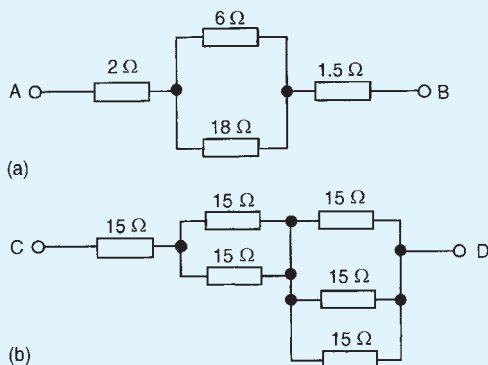

Figure 5.30
4. Find the total resistance between terminals A and B of the circuit shown in Fig. 5.30(a) [$8\ \Omega$]
5. Find the equivalent resistance between terminals C and D of the circuit shown in Fig. 5.30(b) [$27.5\ \Omega$]